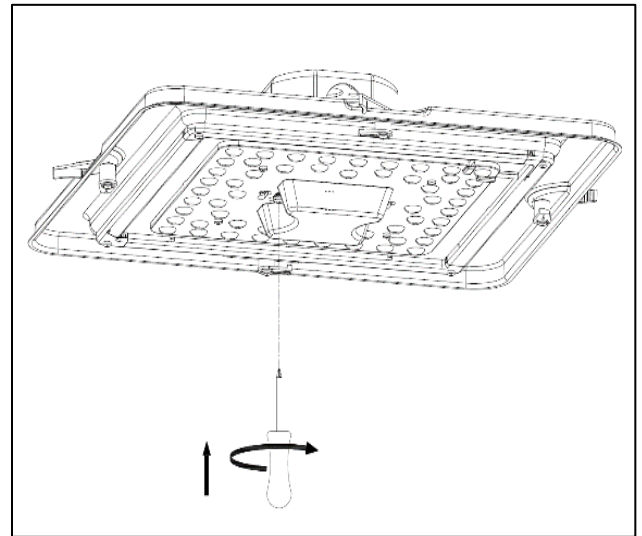

Figure 12
8. Reinstall the diffuser back into the housing assembly by alignment edges, then secure it by rotating clips into the LOCK position (See Figure 12).